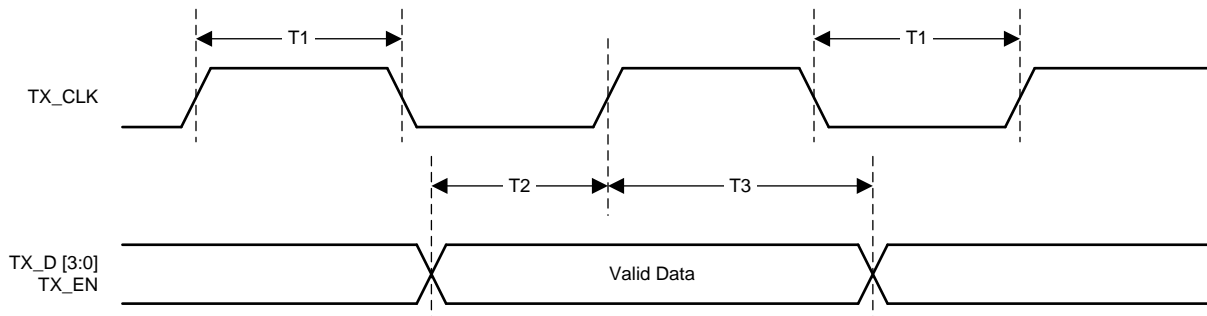

图 6. 10-Mbps Transmit Timing
(1) Ensured by production test, characterization or design.
(2) See 图 6.